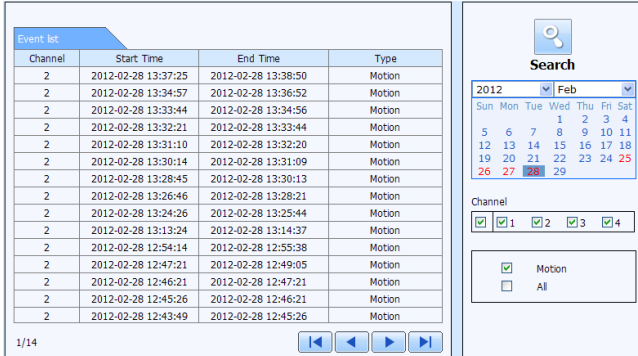

Fig 7-6 Event Search Interface
- Step 1:** Enter into Search→Event Search interface. Refer to Fig 7-6: